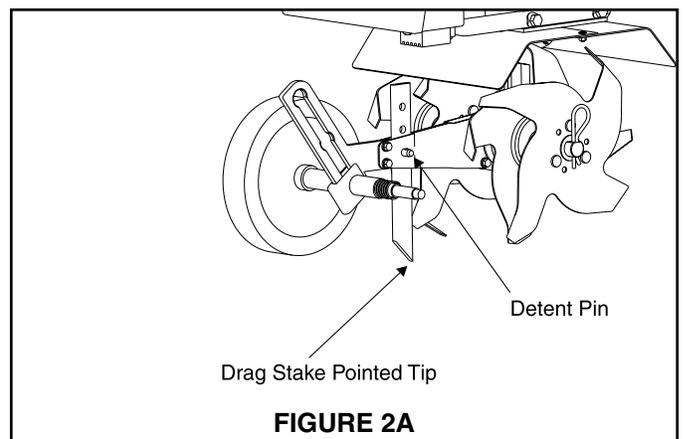

FIGURE 2A
4. The drag stake is shipped with point facing upwards. Before using, remove detent pin and turn the drag stake around so the point is directed in the downward position facing towards the tines. Re-insert detent pin. **SEE FIGURE 2A**.